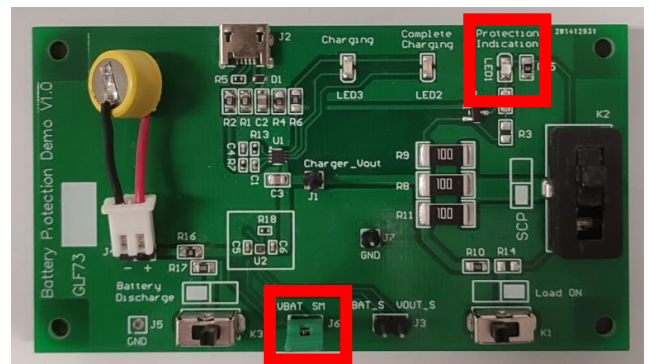

Fig 8. Shipping mode
2. As shown in Fig 8, we short J6 by jumper cap or key, then GLF73915 enters Shipping mode (GLF73915 is off), LED3 (Blue) is off.